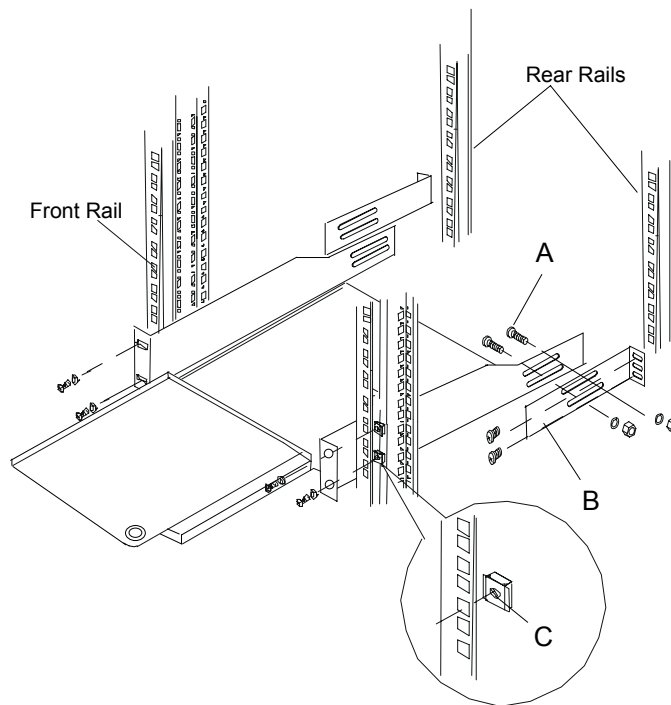

Figure 5-10. Securing the Keyboard Tray
**Note:** Some keyboard tray models are front-mount only, and are secured only to the front rails. Your keyboard tray may not look like the model pictured in Figure 5-10.
As shown in Figure 5-10, the keyboard tray is secured to the front and rear rails of the system rack in with cage-nuts, black plastic washers, and plated finish screws that came with the system rack.
1. Using the longer set of screws (Figure 5-10, A) received with the keyboard tray, attach the two halves of each side rail together. The rear rail (Figure 5-10, B) should be assembled to the outside, or closest to the rack rails.
3. Place two cage-nuts (Figure 5-10, C) on each front and rear rail at the locations you have chosen to mount your keyboard tray.